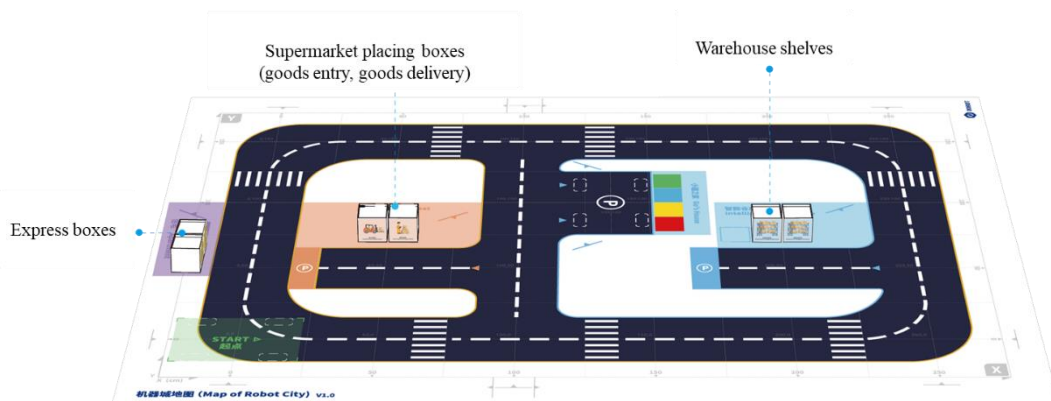

Figure 5.6 Position of placing boxes
2. Placing boxes include intelligent express cabinet, intelligent warehouse shelf and supermarket placing boxes (goods entry, goods delivery), as shown in Table 5.4. Please place the boxes according to the position in Figure 5.6.